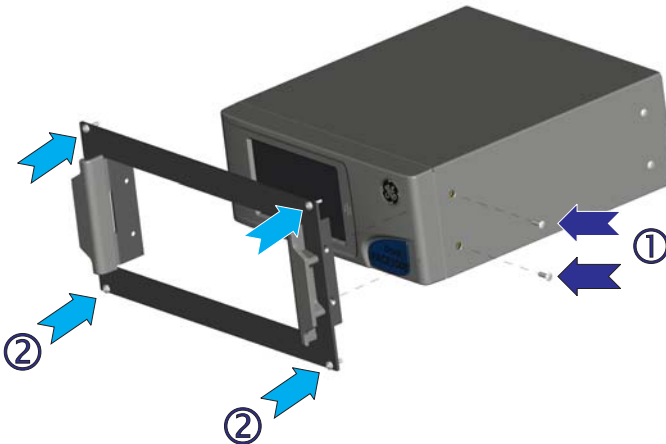

Figure 6 Panel-mounting
5.2 Panel-mount option (Figure 6)